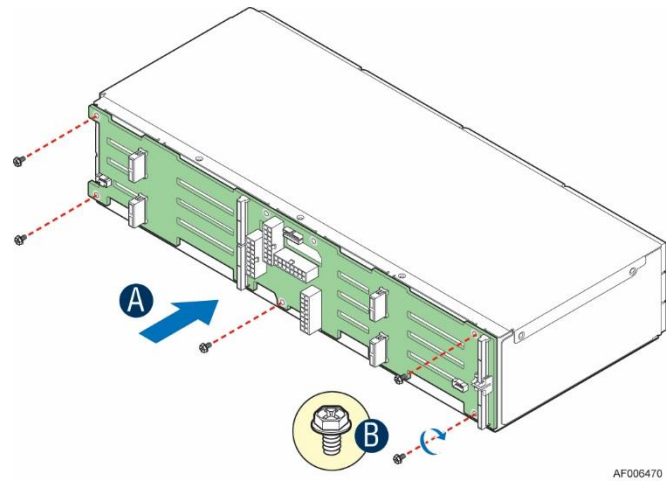

Figure 50. Installing the 16 x 2.5" backplane board to the drive cage
1. Attach the backplane board to the drive cage (A) and fix the backplane board with the screws (B) as pictured in Figure 50.